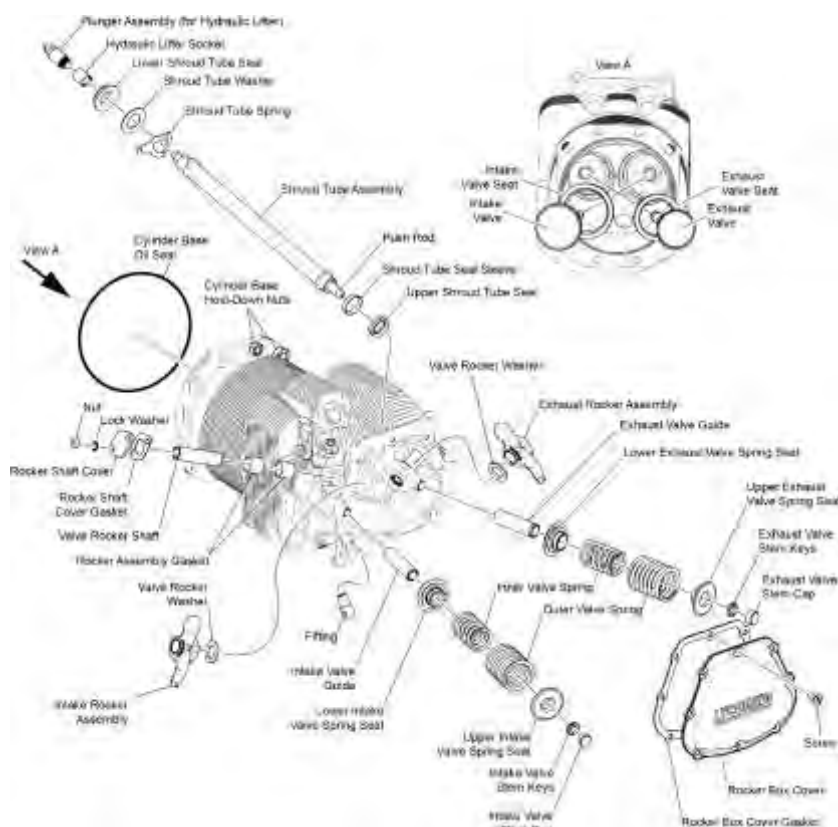

Figure 18
- F. Remove the screws from the rocker box cover (Figure 18).
- G. Remove the rocker box cover (Figure 18) and gasket. Discard the gasket.
- K. Push the valve rocker shafts (Figure 18) outward and remove the rocker assemblies and bushings.
- R. Remove the cylinder base hold-down nuts (Figure 18).
- U. Remove the valve rocker shaft (Figure 18) from the engine cylinder
- D. Start from the top down, use the a commercially available piston ring expander tool to remove the two top compression rings and the oil regulating piston expander ring (Figure 18).
Look for wear or broken parts in the area of the valve, springs, and spring seats. Corrective Action: Replace any broken or worn parts. (Figure 18).	Cylinder 1